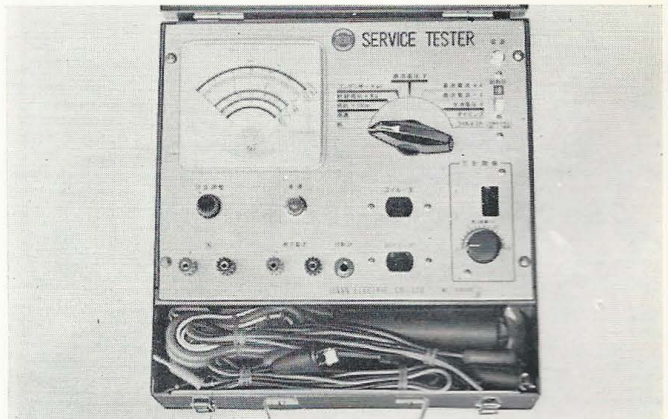

Figure 6-9. Service tester
- (1) Connect the battery power, place the selector switch to "Timing".
- (2) Insert the plug end with the red and white parallel stripes of the timing light into the receptacle marked "Timing".
- (3) Screw the hexagonal connector, included with the timing light, on the top of the spark plug and after installing the rubber cap, attach the high tension cord of the timing light to the connector with the alligator clip.
- (4) Position the switch on the tachometer to "connect", insert the plug from the tachometer into the jack on the tester marked "Jack". The 6,000 rpm is read off the green zone of the meter dial. (Fig. 6-9)